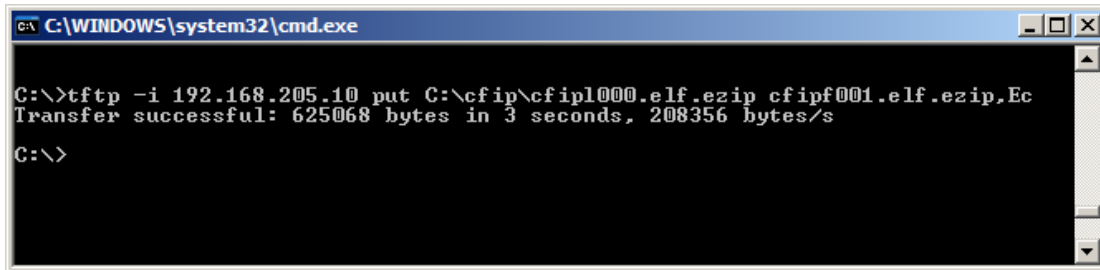

Figure 7.1. Command interpreter cmd.exe
3. Run the program that enables to use TFTP service, for example command interpreter (cmd.exe) if you are using Windows, see **Figure 7.1**;